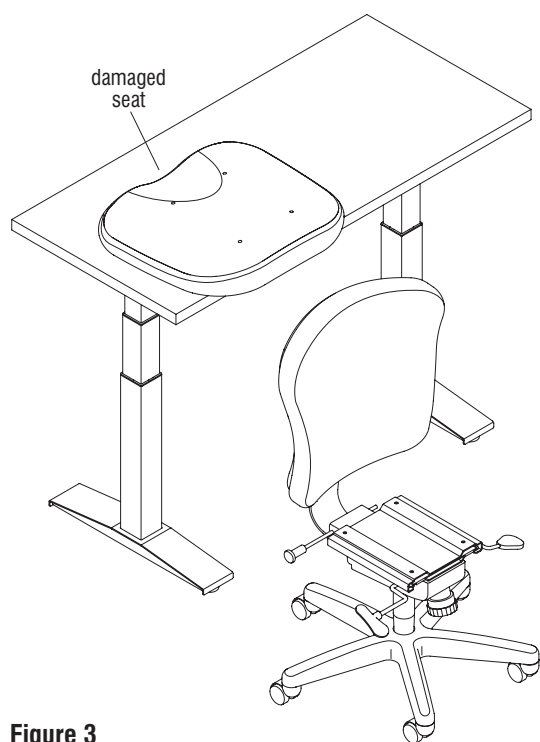

Figure 3
3. Remove the damaged seat from under the task chair. Place the chair upright on the floor (Figure 3).